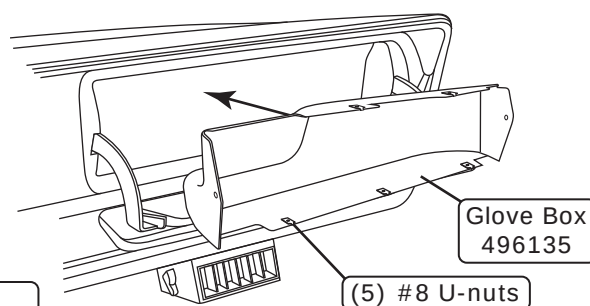

Figure 2
5. Install (5) #8 U-nuts on glove box, and install in glove box compartment (See Figure 2, below).